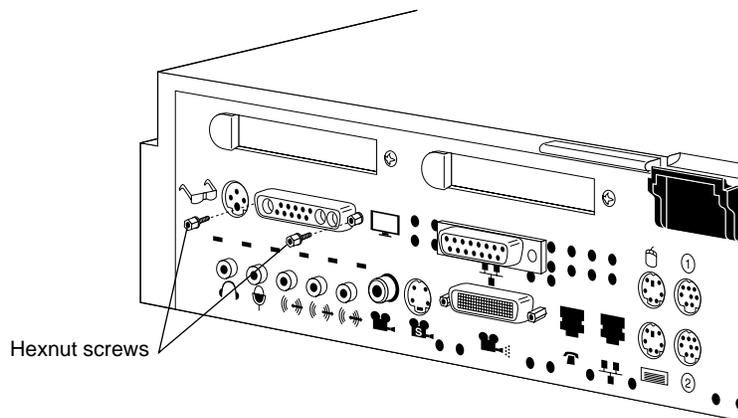

Figure 1-10 Removing the Hexnut Screws From the Rear Panel
1. Use the open-ended wrench to unscrew the two hexnut screws on either side of the graphics board's I/O connector located on the rear of the workstation. (See Figure 1-10.) The wrench is provided with this kit.